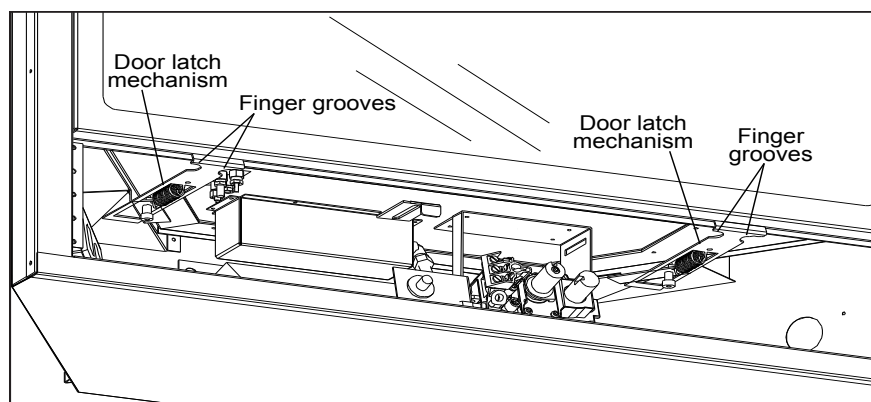
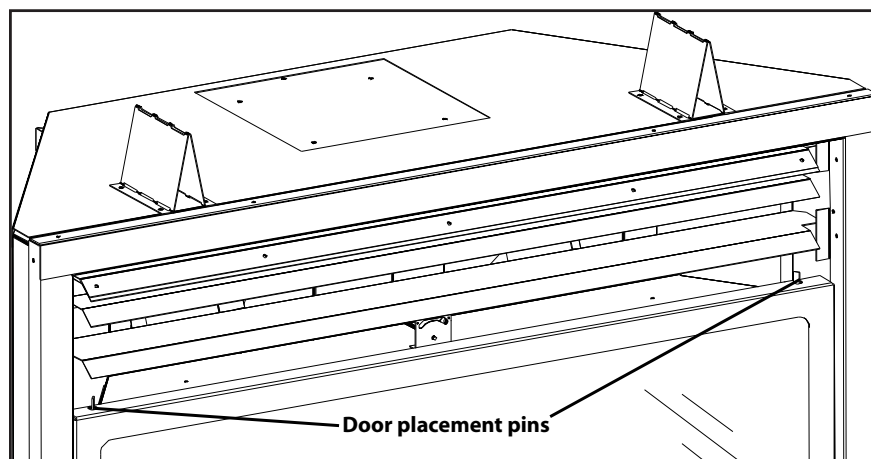

Figure 7. Bottom latches for glass.
Figure 8. Top pins for glass door.
In order to install the log set, and for regular cleaning, the glass door must be removed. There are two (2) door latch mechanisms under the glass door shown in Figure 7. Each latch has two (2) finger grooves, use these to pull the mechanisms straight out. When the bottom latches are unhooked, lift the door straight up over the placement pins at the top of the door, shown in Figure 8.